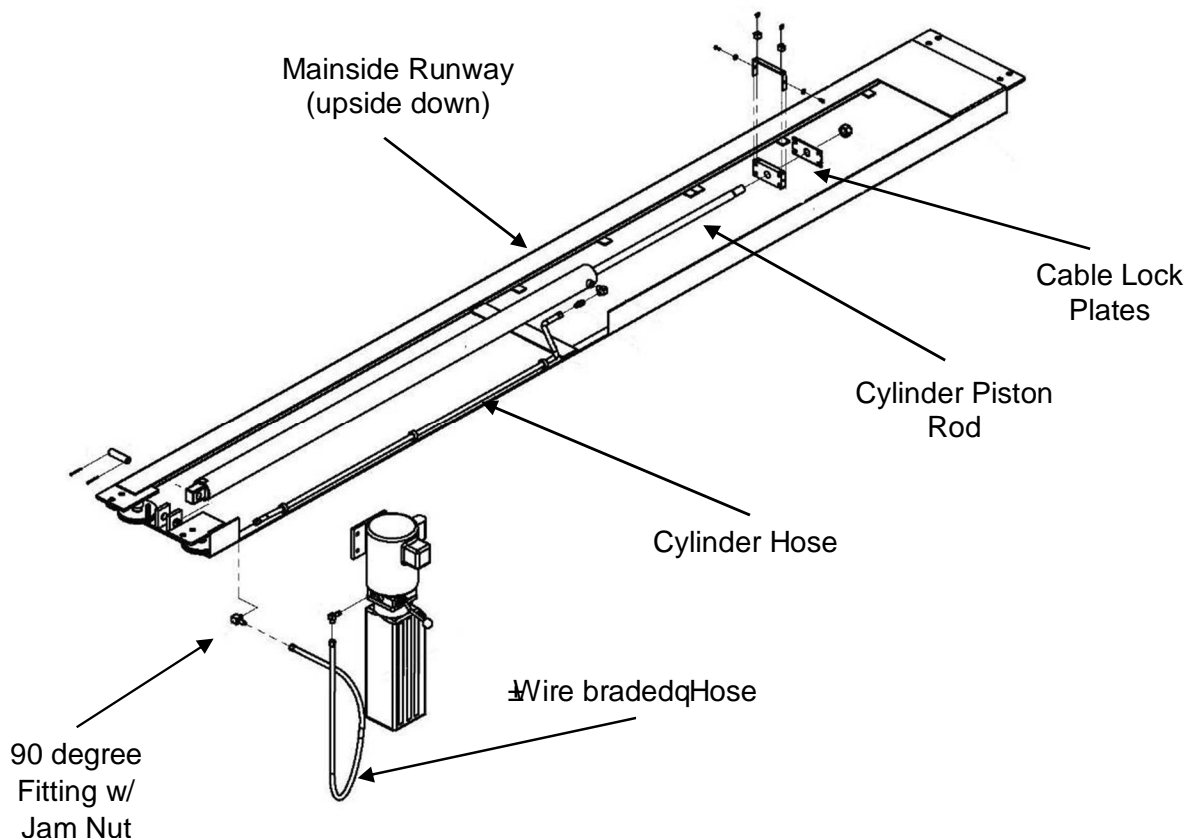

Fig. 2
2. While the Mainside Runway (Fig. 2) is upside down, find the end of the Hydraulic Hose that is already connected to the Cylinder. Locate hole on the side of the Mainside Runway (#1) and install the 90 degree Fitting (#61) securing to runway with Jam Nut. Also remove the plastic shipping ties securing the pre-installed Cables.
20. Install the ~~wire~~ wire braded Hydraulic Hose (#43) to the Fitting on the side of the Main side Runway and attach the other end to the 90 degree Fitting on the Power Unit as shown in Fig.2.